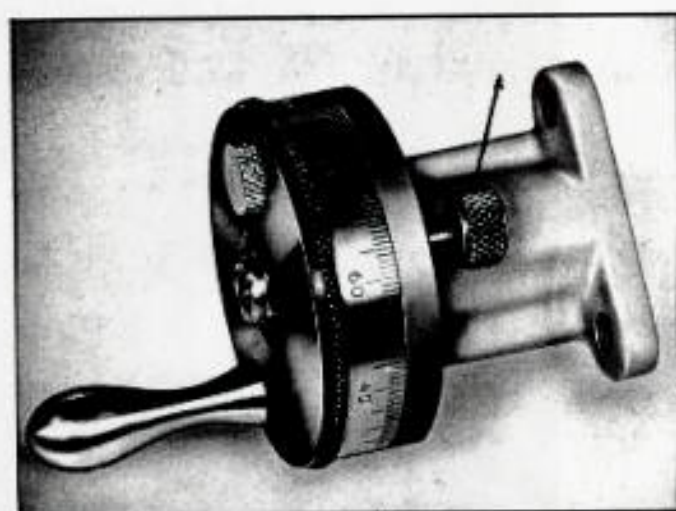

Fig. 10 A
Rockwell 11" Lathes are equipped with a built in thread stop, as shown in Fig. 10-A. This photograph shows the bottom side view of the stop for clarity.
When cutting threads the compound slide is usually set at 29° , and the proper tool holder and thread cutting tool is adjusted in relation to the stock. Push in the knurled knob (A) Fig. 10-A to engage the thread stop and turn the cross slide handwheel clockwise until it engages the stop. Move the compound slide in until the cutting tool just touches the work. Back out the cross slide and move the carriage until the tool is away from the work and clear of the end. Then move the cross slide in against the stop and proceed cutting by engaging the half-nuts.